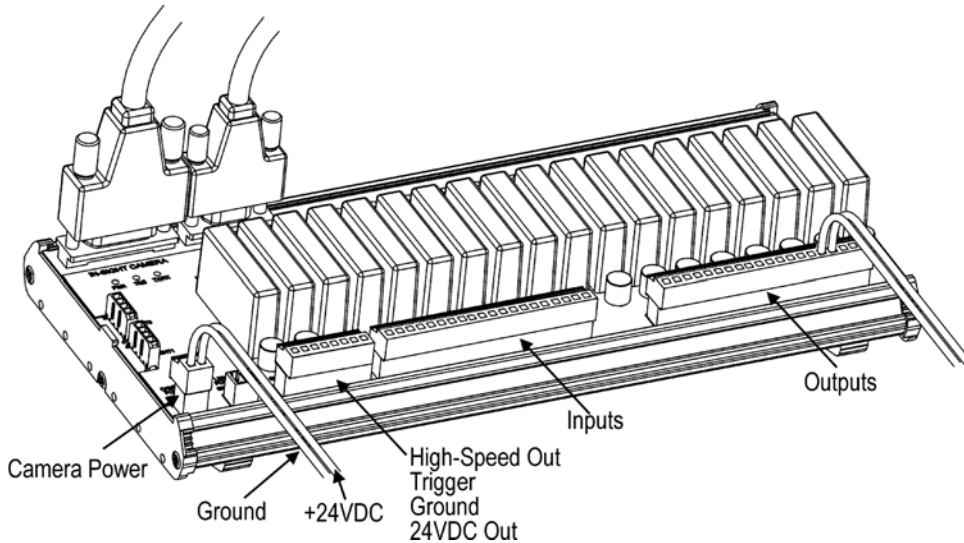

Figure 3-9: Connecting +24VDC and Ground Wires
6. Plug wire leads from a 24VDC supply for the +24V power and ground into the 2 pin terminal plug labeled "Camera Power" on the I/O Expansion Module (Figure 3-9).